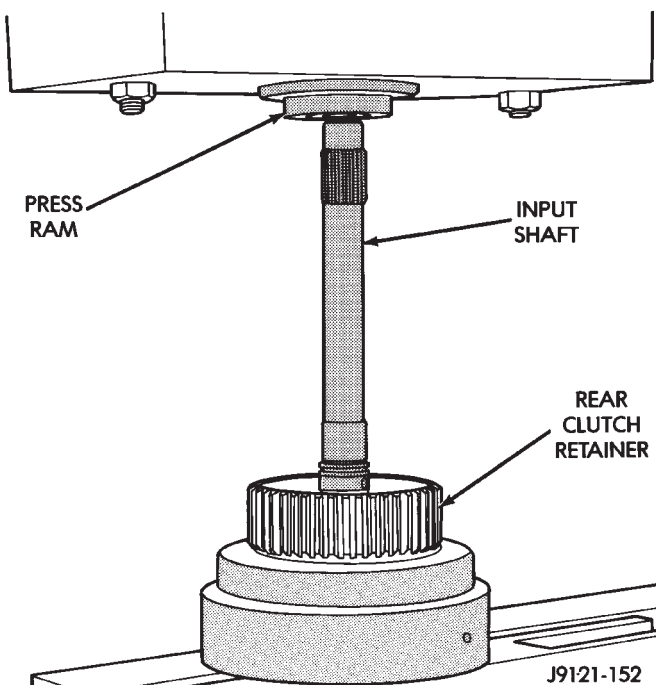

Fig. 219 Pressing Input Shaft Into Rear Clutch Retainer
- (3) Lubricate splined end of input shaft and clutch retainer with transmission fluid. Then press input shaft into retainer (Fig. 219).